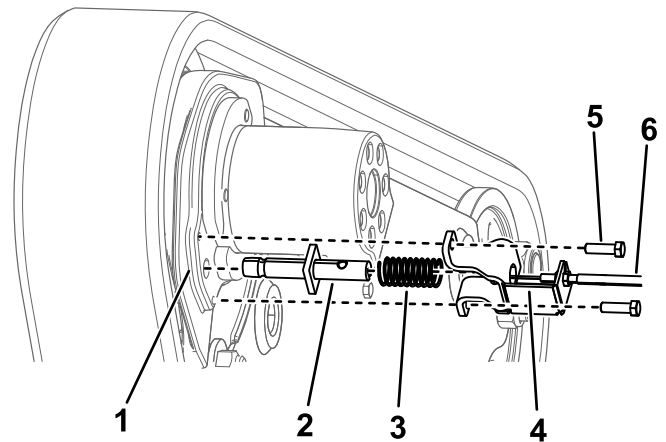

**Figure 7**
7. Using a hoist or forklift capable of lifting 181 kg (400 lb), slide the track assembly from the frame about 15 cm (6 inches) as shown in Figure 7.